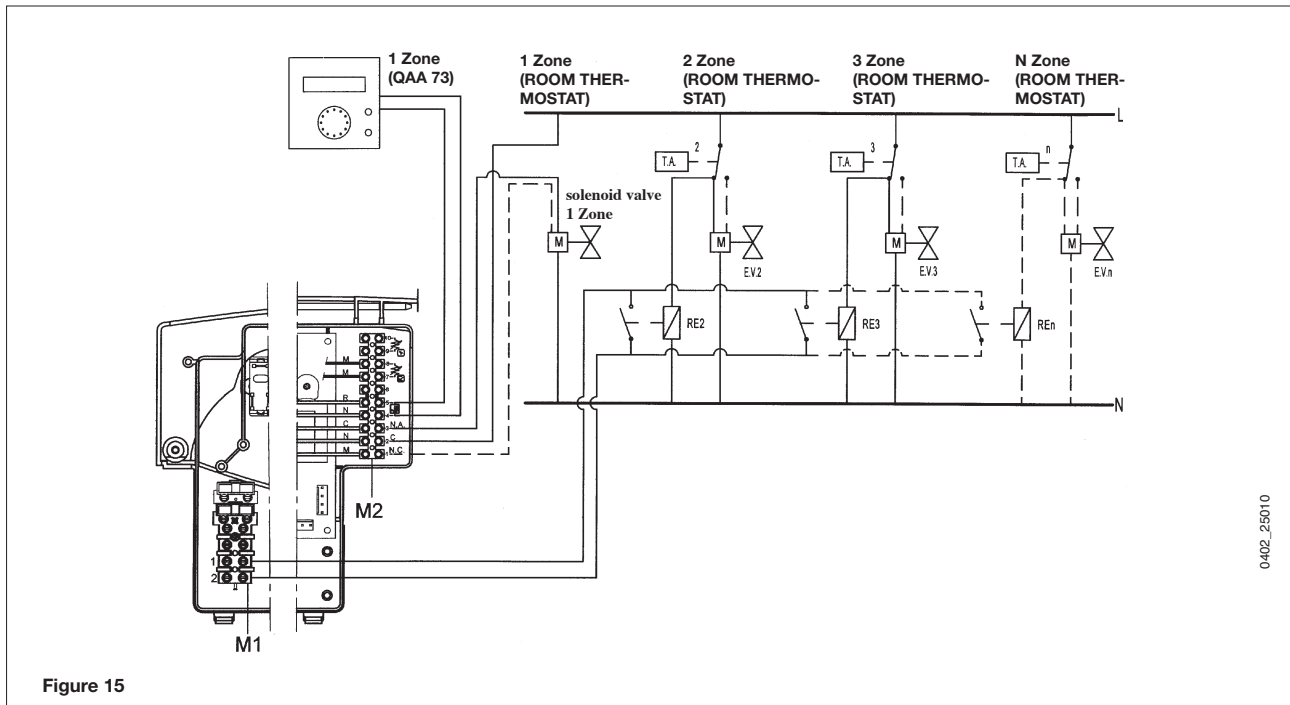

Figure 15
**Terminals 1-2-3, terminal board M2:** connections for a zone control solenoid valve (see figure 15 in section 15.4).
Connect the switch controlling those zones not controlled by the QAA73 in parallel to the "TA" terminals 1-2 of terminal board M1 as shown in figure 15. **Remove the default bridge.**
The zone controlled by the QAA73 is supplied by the zone 1 solenoid valve as shown in figure 15.